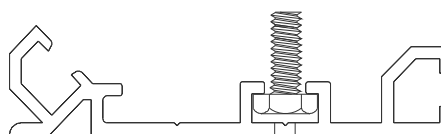

Figure 4
STEP 8. Select a base member and the Pantograph Bar bolts, and insert the bolts into the selected base member's raceway at the locations at which the pantograph bars will be installed (see Figure 4). The pantograph bars are located at 12" from the top and bottom of the assembled joint cover and at 4' o.c. along its length. Two bolts per side per each pantograph bar are required.